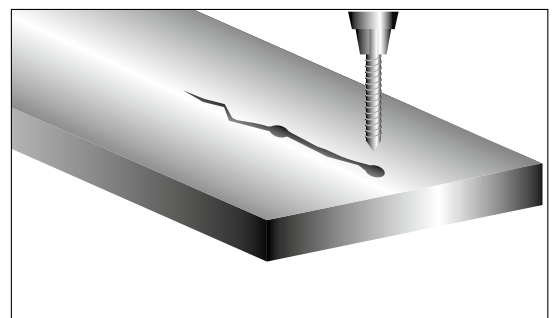

Figure 9. Drill holes at either end of crack.
- 2. DRILL HOLES:** Drill holes 1/8" (3 mm) larger than the crack at either end of the crack. Use detecting dye if necessary to determine the actual area of the crack. If the crack is over 5" (12.5 cm) long, drill multiple holes along the length of the crack. (See Figure 9)